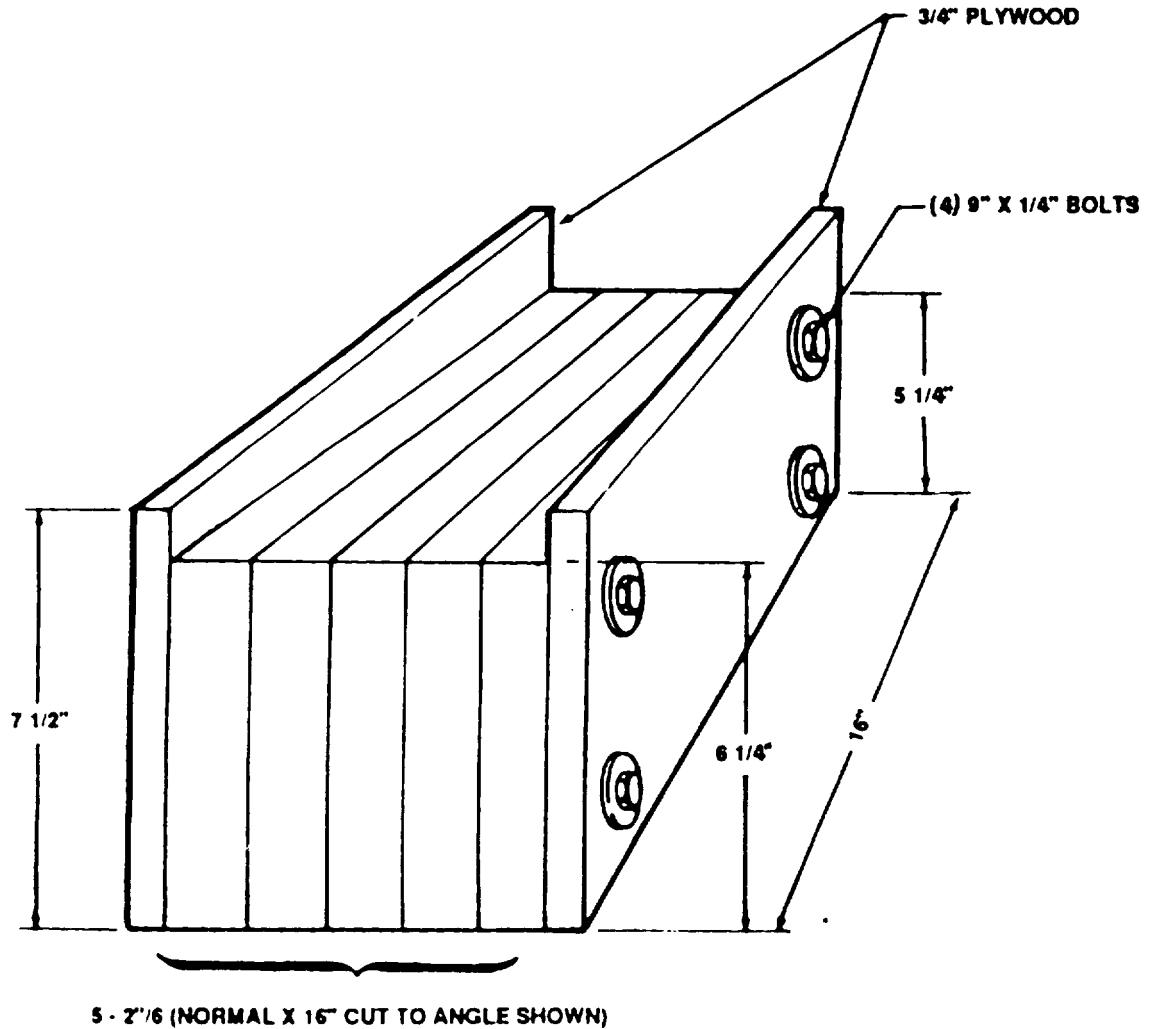

Figure 2-11.2 Position Block
i. Place two positioning blocks (Figure 2-11.2) one under each skid, directly beneath forward crosstube. Lower helicopter onto blocks insuring clearance is maintained between the helicopter vertical stabilizer and the cargo aircraft roof. Restrain forward movement of blocks with tiedown straps.